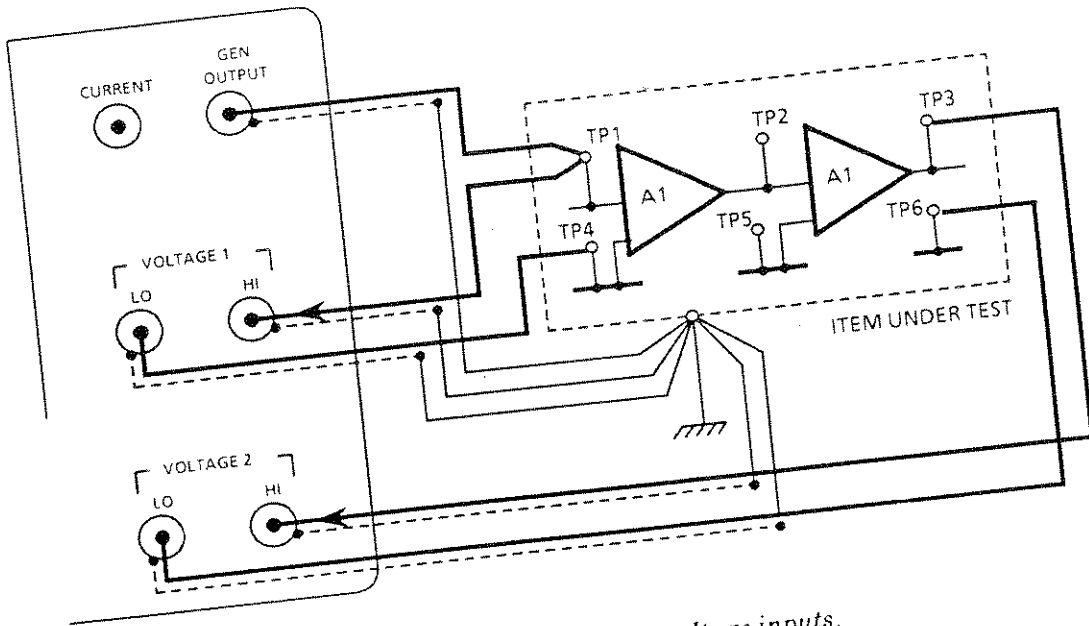

Fig 6.3 Typical use of differential voltage inputs.
- b) between a test point and signal ground, as in the example shown in Fig 6.3.